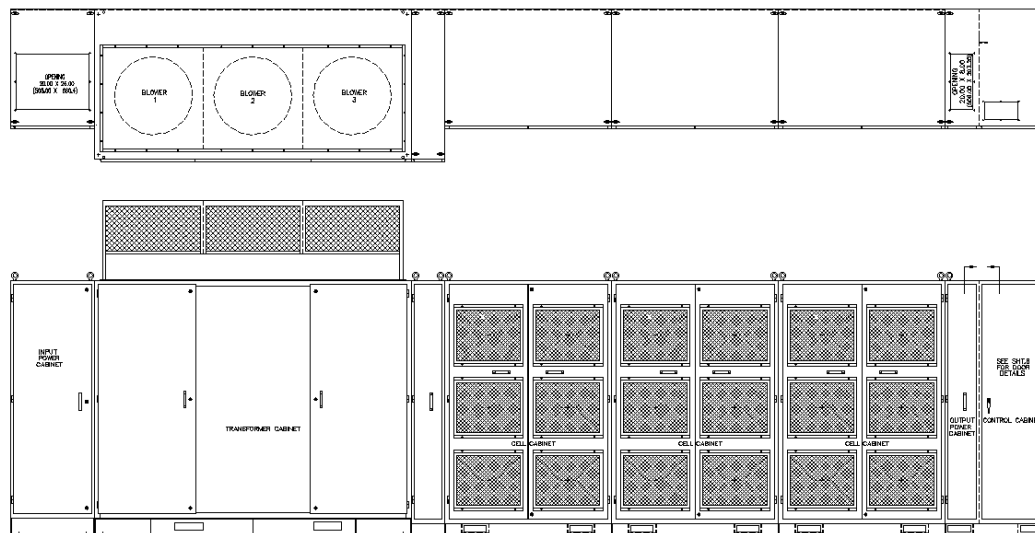

Figure 1-4. Typical GEN II Perfect Harmony VFD Lineup
- GEN II (multiple cabinet) style (shown in Figure 1-4).